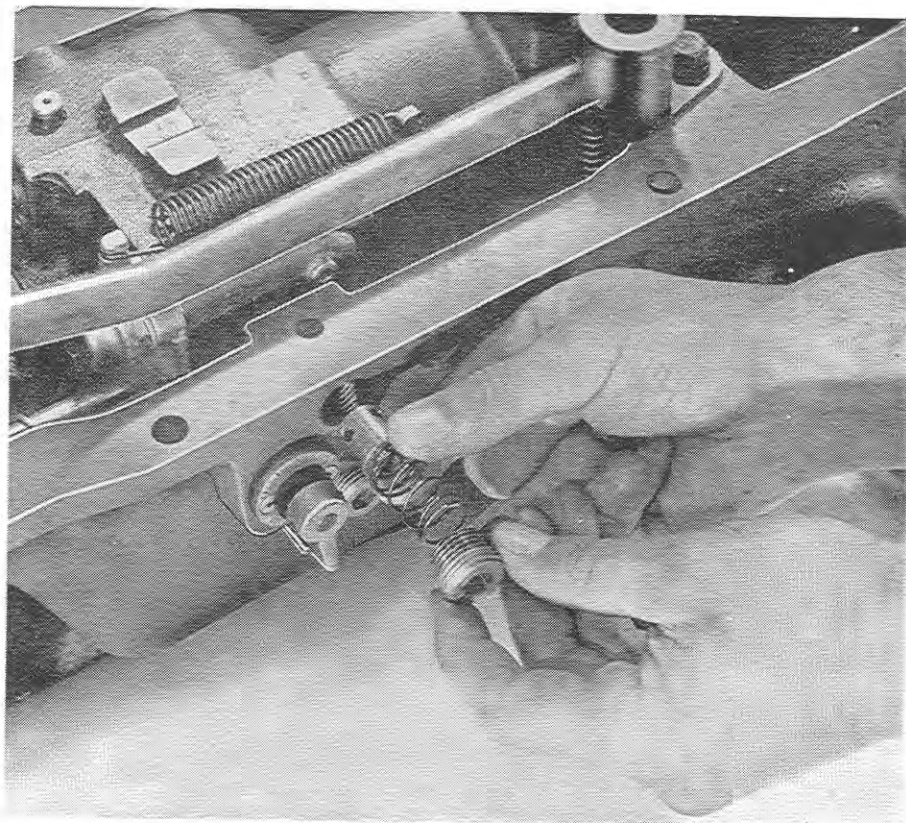

Fig. 14
- 11) Where a tractor is equipped with an oil cooler (hot climat only). Put the by-pass assembly and plug in place (Fig. 14).